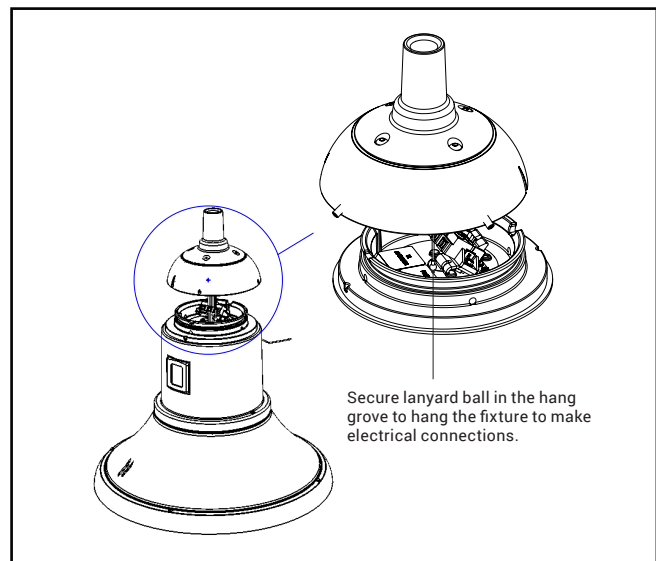

Figure 3.
5. Lift the fixture and hang it from the cable lanyard. The hang bracket has a magnet to pull the lanyard ball into position (Figure 3).